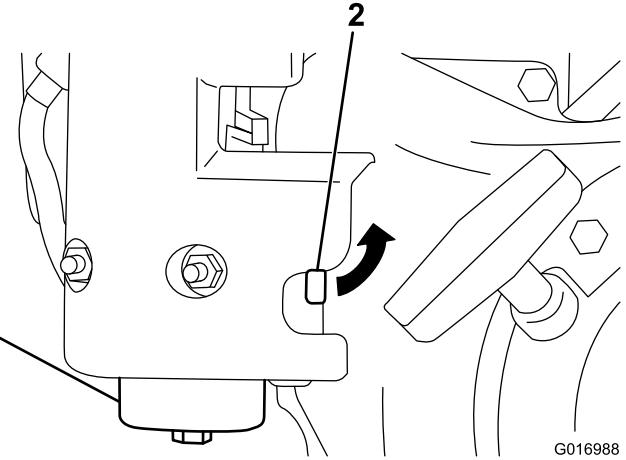

Figure 32
1. Close the fuel shut-off valve and unscrew the bowl from the filter body (Figure 32).